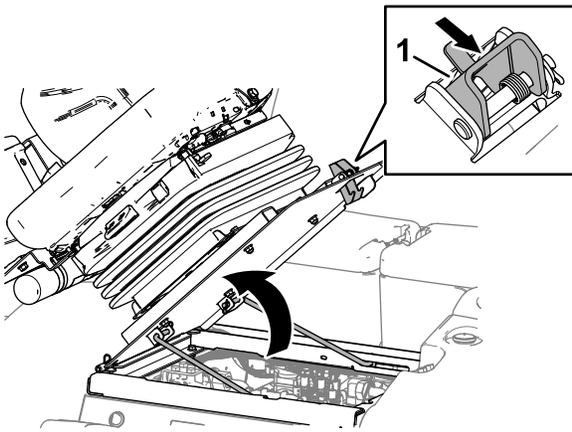

Figure 62
1. Move the seat latch outward (Figure 62).